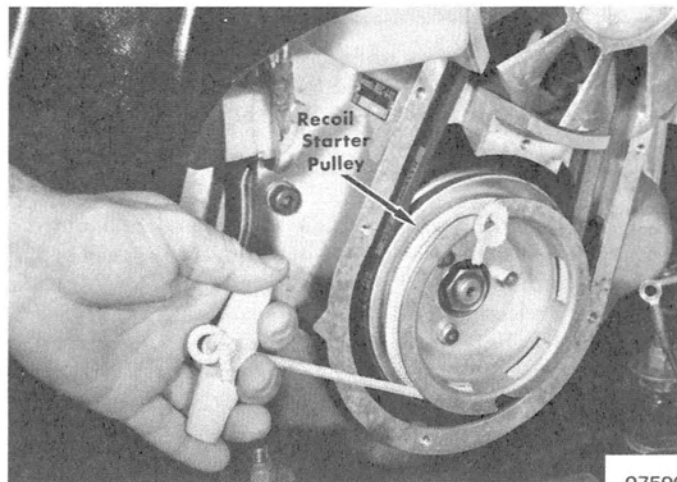

Figure 8. Emergency Rope Starting
4. Wind the rope around the starter sheave in a clockwise direction. (Figure 8)